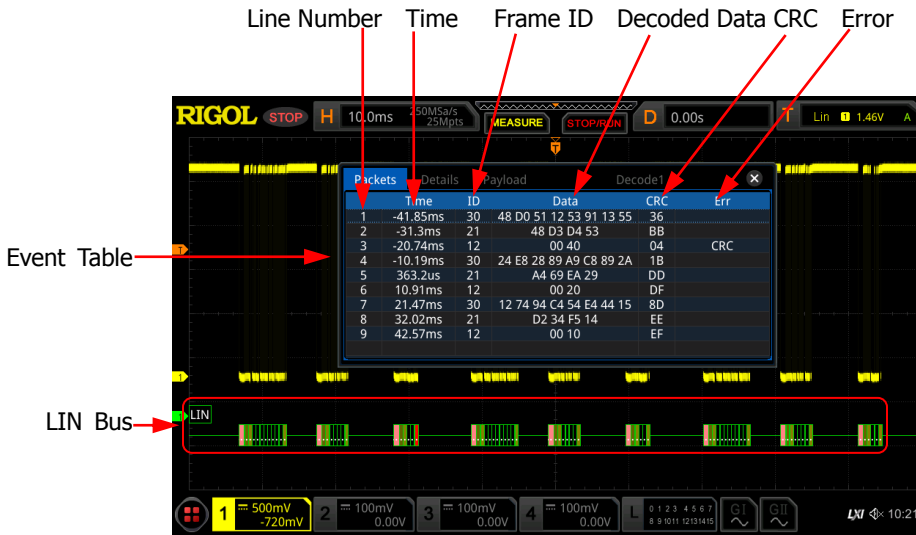

Figure 12-9 LIN Decoding Event Table
- Open or close the event table: Press **Event Table** continuously to enable or disable the event table. When you enable the event table, the following figure is displayed, as shown in Figure 12-9. You can also enable the touch screen to tap the icon  at the upper-right corner of the table to close the event table.